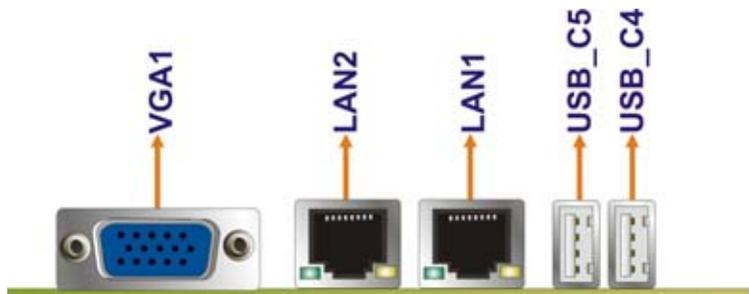

Figure 3-24: PCISA-945GSE External Peripheral Interface Connector
Figure 3-24 shows the PCISA-945GSE external peripheral interface connector (EPIC) panel. The PCISA-945GSE EPIC panel consists of the following:
- CN Location:** See Figure 3-24